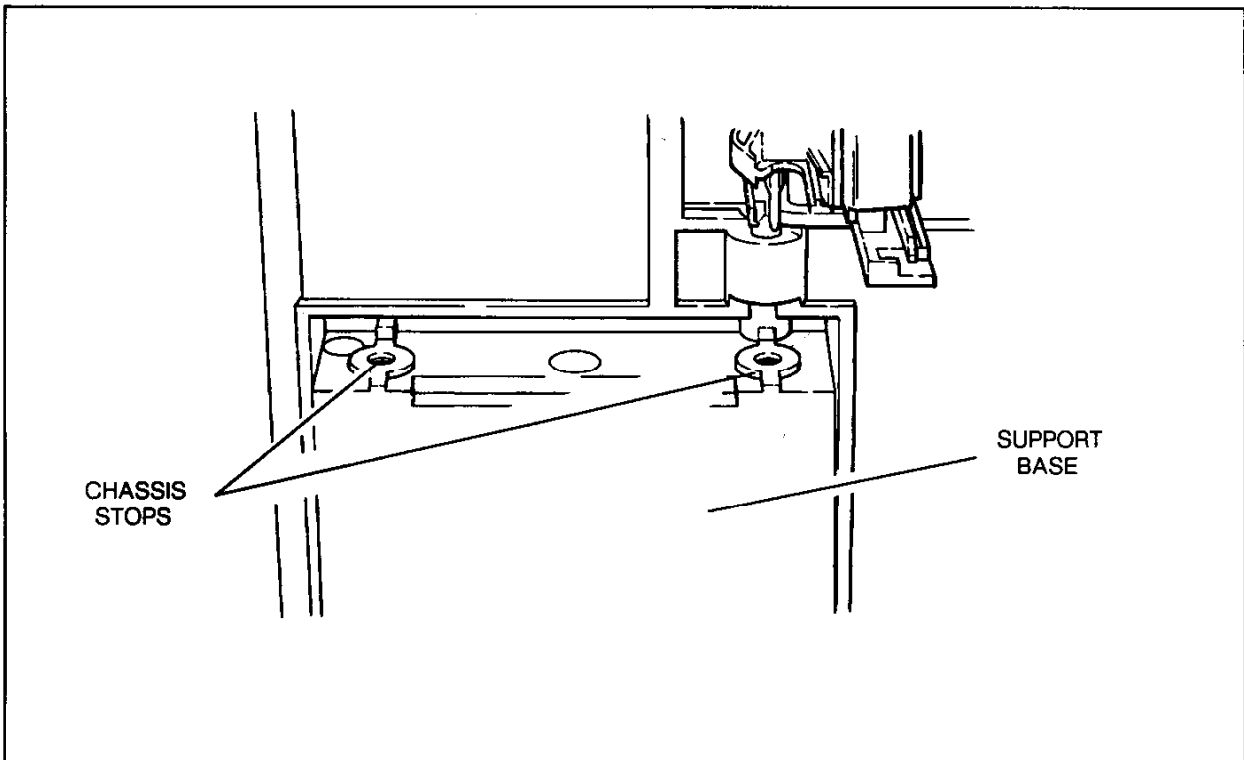

Figure 7-1. Carousel Support Base
- d. Ensure the carousel base is flat against the support base and chassis stops on the X-Y chassis. See Figure 7-1.